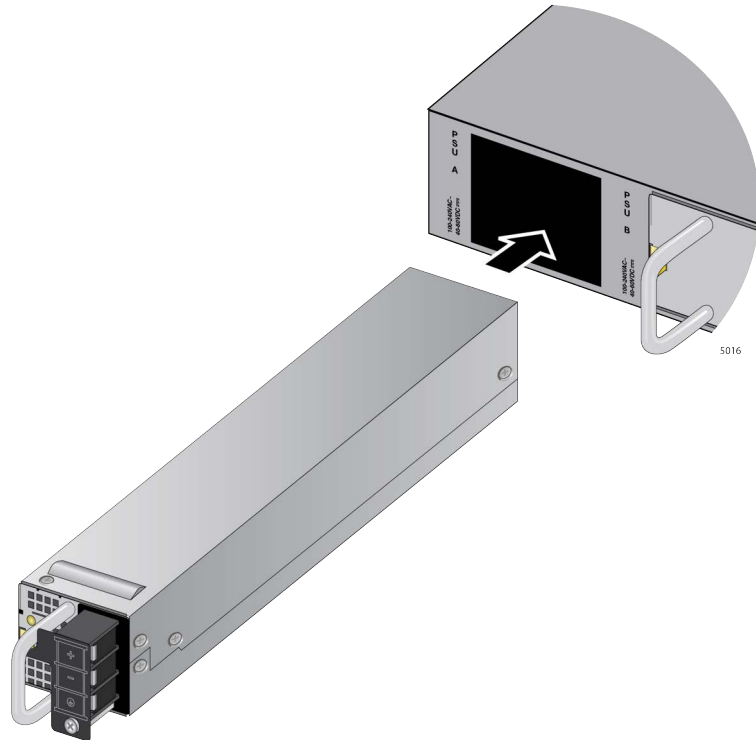

Figure 41. Sliding the AT-PWR600 DC Power Supply into the Chassis
3. Carefully align the power supply in the slot and slide it into the slot. Figure 41 on page 105 shows the module aligned for the PSU A slot.